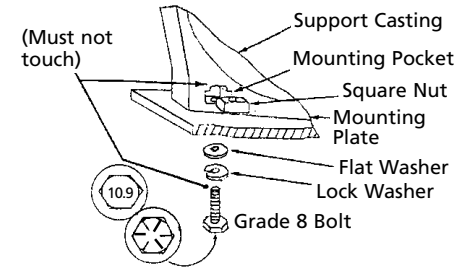

Figure 9
3. Use only square nuts in casting for mounting. (See Figure 9.)
3. Attach the long yellow color coded wire and the ground wire from solenoid pack to the motor case. Mount the winch to the mounting kit base plate or to the mount that you designed (see Figure 9).
CAUTION *The end of the mounting bolts must not contact the opposite side of the support casting's mounting pocket (see Figure 9).*
WARNING *Do not substitute any strength grade weaker than SAE Grade 8 (ISO 10.9). Grade marking is found on the bolt head and is pictured in Figure 9.*